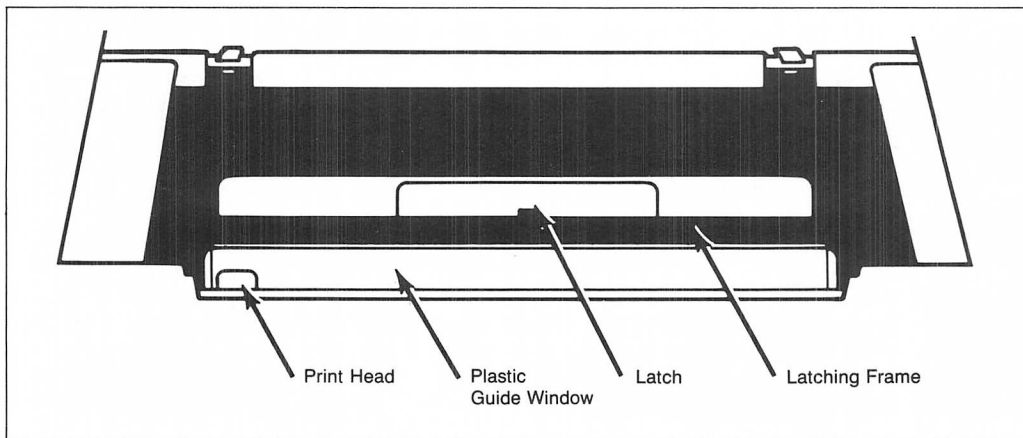

Figure C-6. Integral Printer Mechanism
- The metal latch, under the printer lid (figure C-6), is not latched. To latch it, press it down firmly.
- Step 1.** Lift the top cover of the printer mechanism (figure C-6). An illustration of the correct paper position and flow is embossed on the underside of the cover.
CAUTION: The print head (figure C-6) is relatively fragile and susceptible to damage. Be careful not to strike the print head while loading the paper.